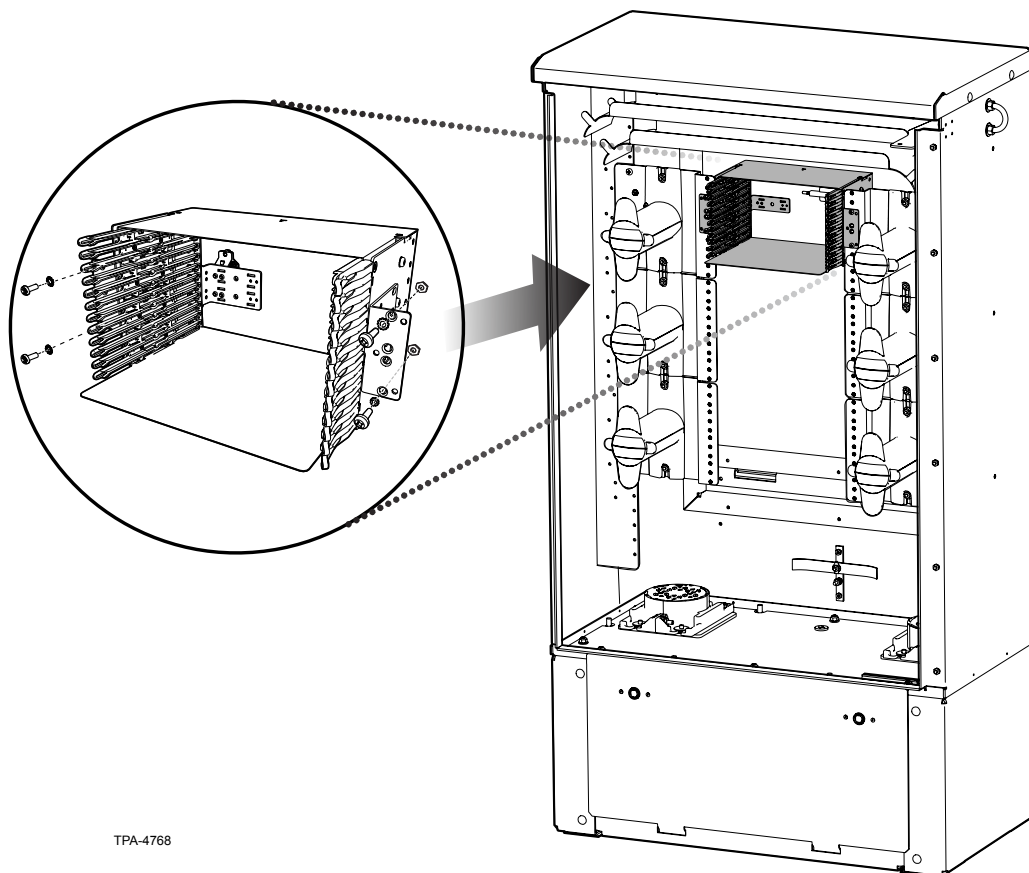

Figure 13
Step 2: Install the Centrix™ System housing per the instructions provided with the housing (Figure 13).
Step 1: Locate and attach the housing to the mounting rack inside the cabinet (Figure 13) allowing the cable stub to slide through the cord connector previously attached to the cabinet.